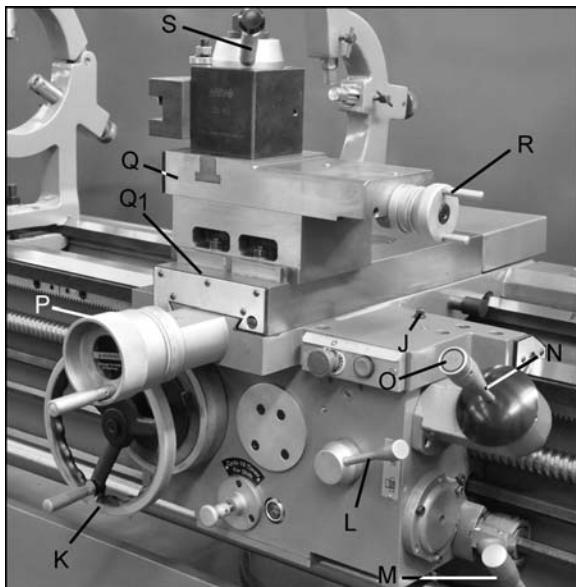

Figure 24 – Carriage controls and settings
5. **Carriage Lock** (J, Figure 24): Located on top right of carriage. Turn clockwise to lock, counterclockwise to unlock.
6. **Carriage Handwheel** (K, Figure 24): Located on the apron. Rotate handwheel clockwise to move carriage assembly toward tailstock (right). Rotate the wheel counterclockwise to move carriage assembly toward headstock (left). A scale is mounted to the ring, graduated in 0.05 inch increments, and can be calibrated by loosening the thumb screw lock and rotating the ring as needed. Always re-tighten ring before using the feed.
7. **Half Nut Lever** (L, Figure 24): Located on front of apron assembly. Engages the leadscrew for threading operations.
9. **Spindle Direction Control Lever** (M, Figure 24). Move lever to the right so that its tab clears the notch, then down for forward spindle rotation, or up for reverse spindle rotation. *Allow spindle to come to a stop before changing directions.*
10. **Feed Direction Lever** (N, Figure 24): Left and right moves the carriage in the corresponding directions (longitudinal feed); up and down moves the cross slide (cross feed).
11. **Rapid Traverse Button** (O, Figure 24). Push for rapid movement in the direction set by the feed direction lever. Rapid longitudinal movement disengages the carriage handwheel. However, the cross slide handwheel should be disengaged (pull it out) before using rapid feed.
12. **Cross Slide Handwheel** (P, Figure 24): Located above apron assembly. Clockwise rotation moves cross slide toward rear of machine. The accompanying scale is graduated in 0.002 inch increments. Before using rapid feed, disengage this handle by pulling it outward.
13. **Compound Rest** (Q, Figure 24): Located on top of the cross slide and can be rotated 360° by loosening four nuts (two in front, two in back). There are calibrations in degrees (Q1, Figure 24) to assist in placement of the compound rest to the desired angle.
14. **Compound Rest Handle** (R, Figure 24): Rotate clockwise or counterclockwise to position. The accompanying scale on the collar is graduated in 0.001 inch increments.
15. **Tool Post Clamping Lever** (S, Figure 24): Rotate counterclockwise to loosen and clockwise to tighten. Always use minimum of two clamping screws to secure a cutting tool.